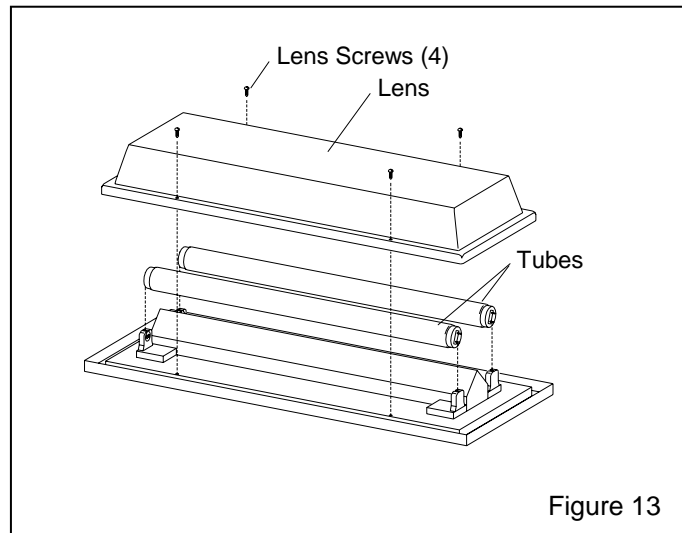

Figure 13
7.6.3.2 Flip the assembly over to access the lens screws, ref. Figure 13.